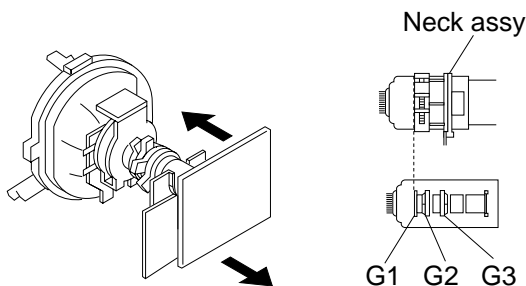

Fig. 3-1
2. Position neck assy as shown in Figure 3-1.
(See Figures 3-1 through 3-3.)
5. Move the deflection yoke forward and adjust so that the entire screen is green. (See Figure 3-1.)